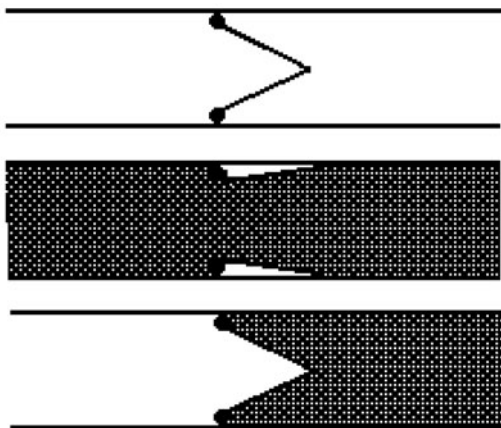

Figure L3-4
- The diode is a one-way street. You can view the animated version of Figure L3-4 at the website www.mhprofessional.com/computing download.